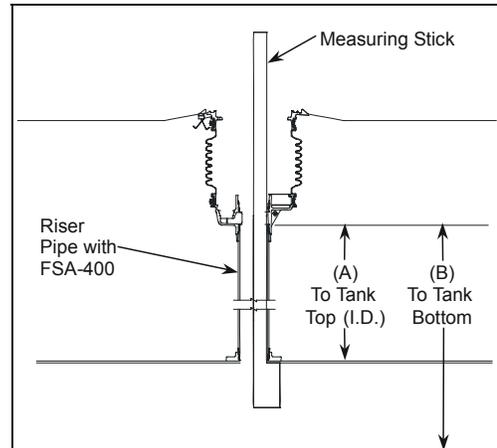
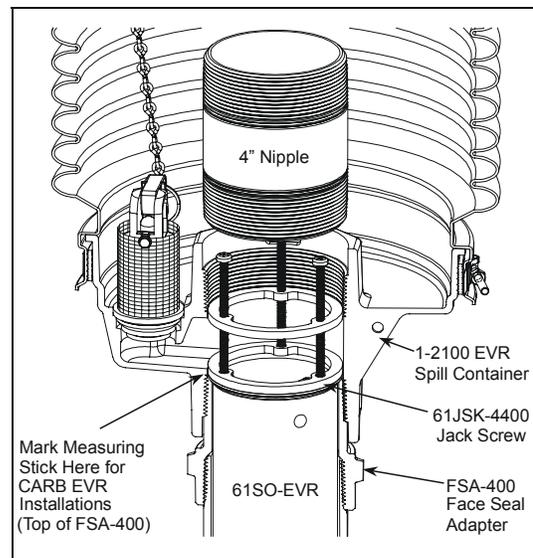
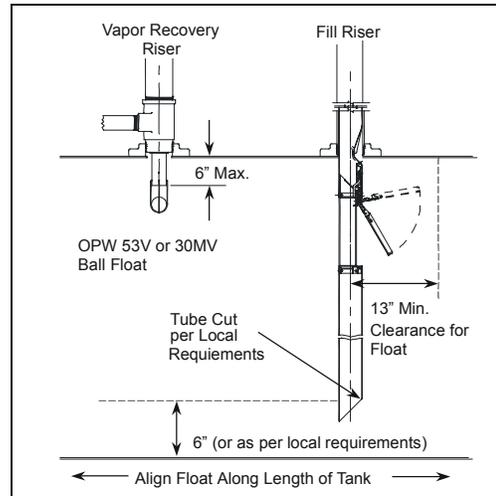

Figure 1
Figure 1A
Figure 16
Install the OPW FSA-400 Face Seal Adaptor and the 1-2100-EVR Series Thread-on Spill Container on the Fill Riser (Refer to the Installation Instructions Supplied with the 1-2100-EVR Series Spill Container). Insert the 61SO measuring stick through the riser pipe and hook it under the inside of the tank in the lengthwise direction. Mark the measuring stick at the top of the FSA-400 threads inside the base of the spill container bucket just below the drain valve outlet window (See Figure 1 & 1A). The top flange on the 61SO will rest on the FSA-400 just below the drain valve outlet, and be locked in place between the FSA-400 and the 4" nipple that is installed in the spill container with the 61JSK-4400 Jack Screw Kit (See Figure 1A). (For riser pipe configurations other than that shown, consult installation drawings or use other necessary means to measure Dimension "A").
requirements. Determine dimension (B) from the measurements taken in Step 1, Figure 1 (Top of the FSA-400 below the drain valve outlet in the spill container to the bottom of the tank). Saw off the excess tube at a 45-degree angle and file off any sharp burrs (Refer to Figure 16). Optional: Install the OPW/POMECO Tank Bottom Protector on the lower tube (Refer to Installation instructions supplied with the 6110 Tank Bottom Protector).